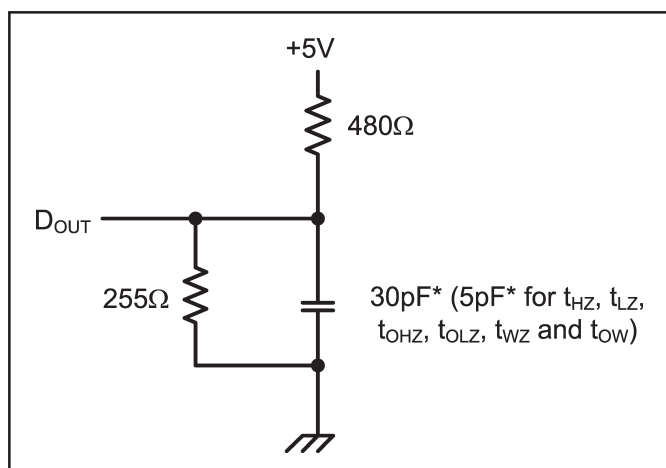

Figure 1. Output Load
- 8. Transition is measured $\pm 200mV$ from steady state voltage prior to change, with loading as specified in Figure 1. This parameter is sampled and not 100% tested.
Output Load	See Figures 1 and 2